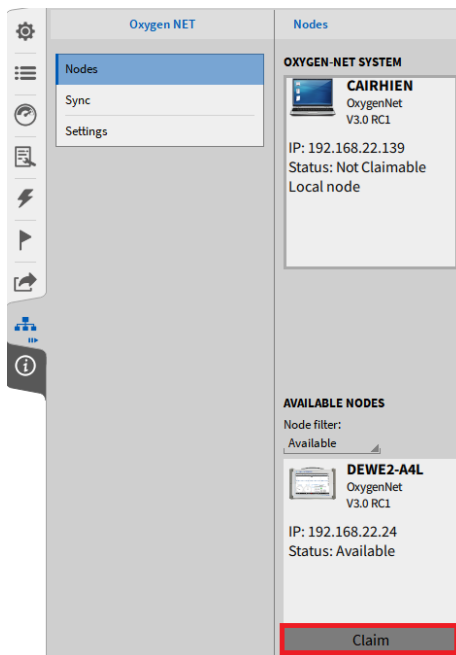

Figure 12-15: Claiming of measurement devices
- Go to the OXYGEN Net menu *Nodes* on the Master unit. In the *Available Nodes* section, all measurement devices with OXYGEN Net enabled are listed. By clicking on the *Claim* button (see Figure 12-15), the individual device is added to the OXYGEN Net system as a Slave unit and can be controlled by the Master unit.